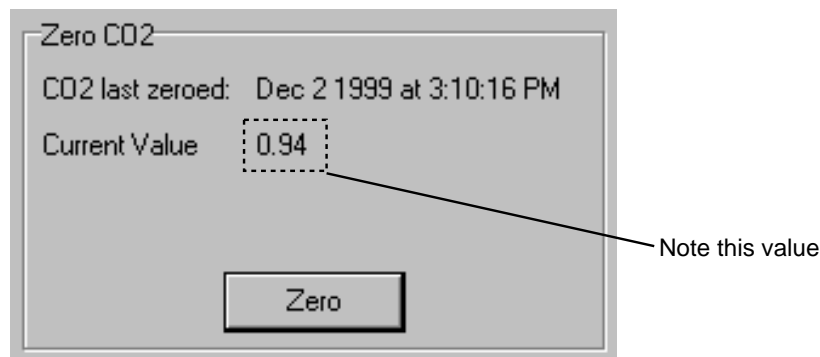

Figure 4-2. Note value of Z_{CO} , shown as Current Value.
5. Observe the CO₂ concentration and wait for it to stabilize (typically 1 minute). Also, note the present value of Z_{CO} (Figure 4-2).
6. When the reading has stabilized, click **Zero** to set the CO₂ zero. After a brief delay, the displayed CO₂ value should be fluctuating around zero. Check the resultant value of Z_{CO} shown on the *Zero CO₂* page (Figure 4-2). It should be near 1 (typically between 0.85 and 1.1). This value will steadily increase as the internal chemicals lose effectiveness.